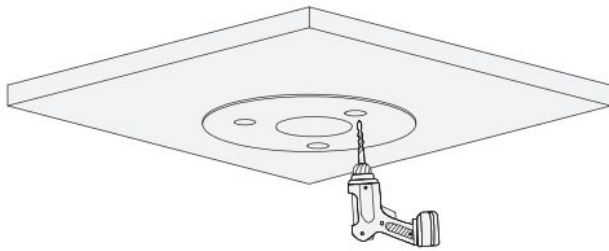

Figure 2-2
Step 2 Use the included position map and drill the appropriate mounting holes and cable exit, if necessary. See Figure 2-2.